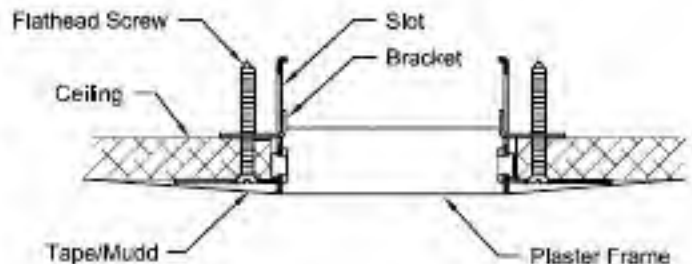

Figure 2
5. Remove two (2) Long Flathead Screws from Plaster Frame. See Fig. 2.
6. Remove two (2) Brackets from Plaster Frame. See Fig. 2.
2. Insert two (2) Brackets through opening in Plaster Frame and into Slots in Plaster Frame. Turn 90° to seat in Slot. See Fig. 2.
2. Retain Brackets using two (2) Long Flathead Screws.
4. Continue tightening Flathead Screws until Brackets hold Plaster Frame firmly against Ceiling. See Fig. 2. Do NOT overtighten screws!
5. Tape and Mudd Plaster Frame/Aperture surface to a smooth finish. See Fig. 2.